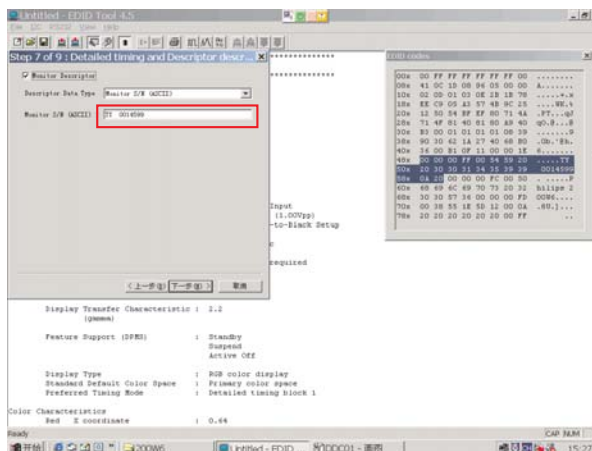

Fig. 16
- Click Next to step7, bring up Fig. 16.